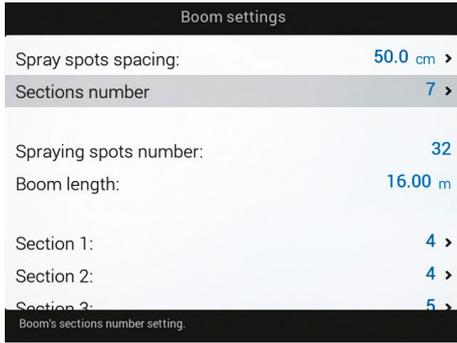

Fig. 56
- Repeat the setup for each section (Fig. 56).